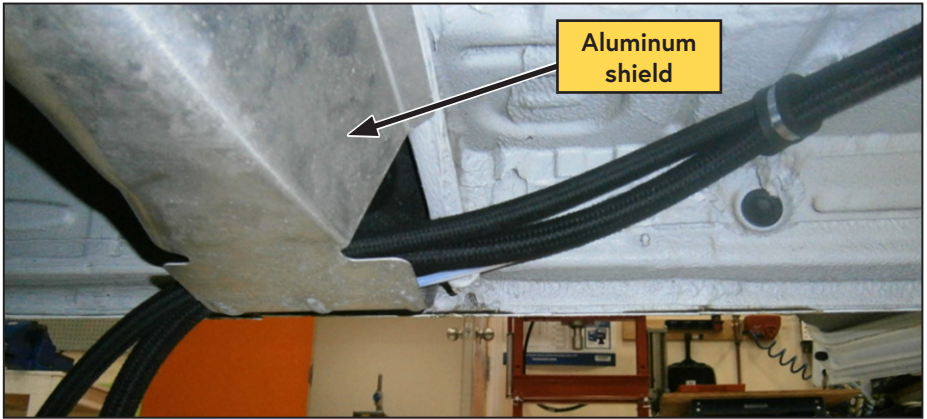

Figure 43 — Hose routing
- Feed the PTFE tube and hoses through the lower portion of the OEM aluminum shield around the fuel filler (Figure 43).